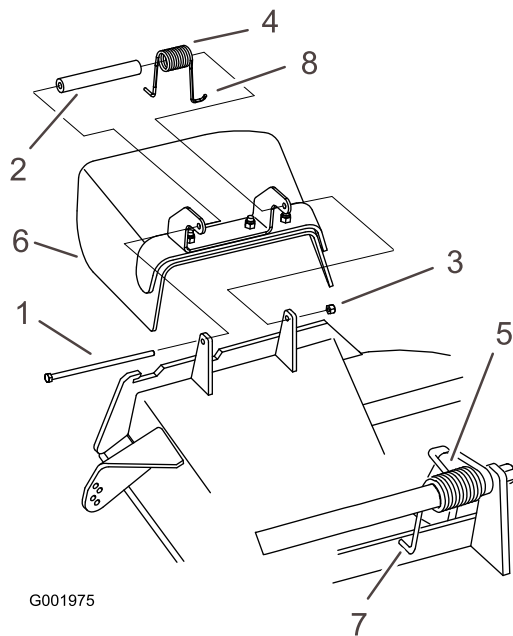

Figure 80
1. Remove the locknut, bolt, spring and spacer holding the deflector to the pivot brackets (Figure 80). Remove the damaged or worn grass deflector.
Note: Make sure one **J** end of the spring is installed behind the deck edge before installing the bolt as shown in Figure 80.
3. Install the bolt and nut. Place one **J** hook end of the spring around the grass deflector (Figure 80).